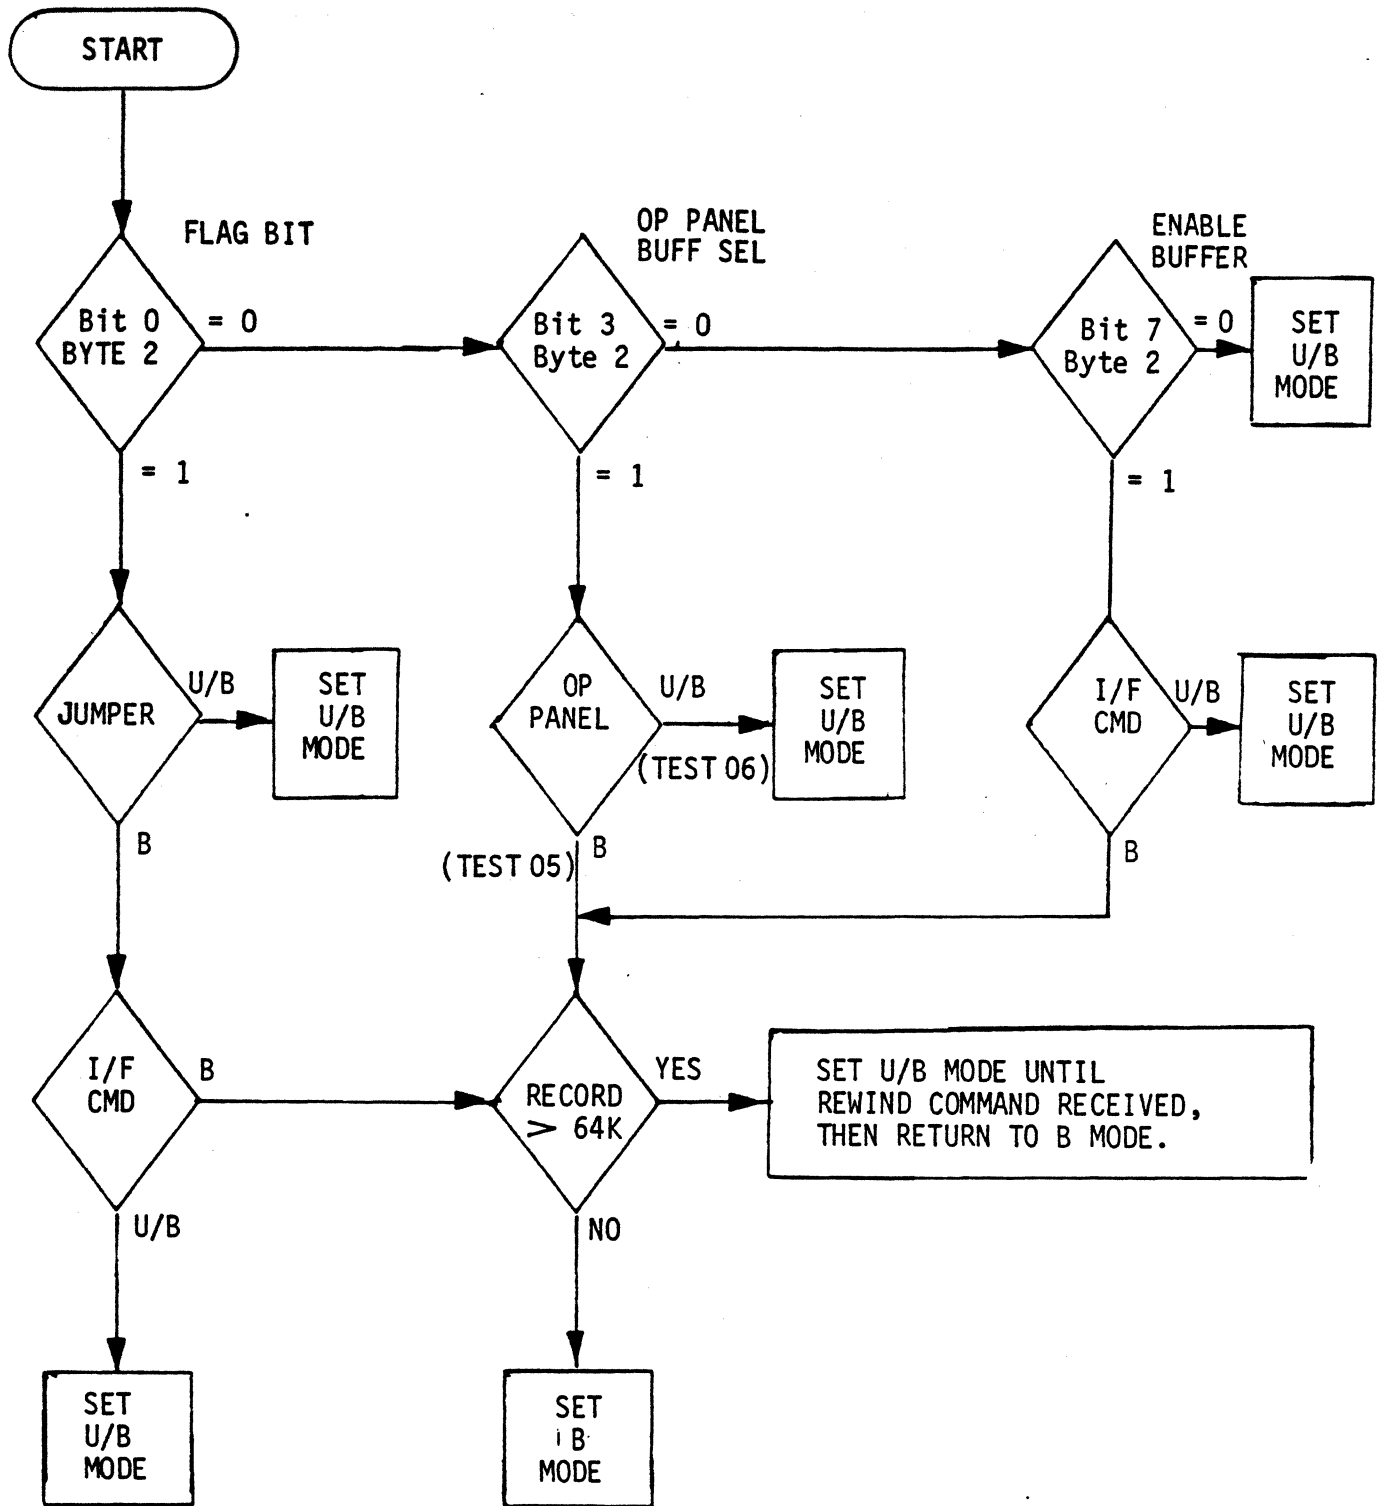

Figure 6-5A. Setting Buffered (B) or Unbuffered (U/B) Mode, buffered Pertec Enhanced I/F
- c. For priorities in setting buffer mode or unbuffered mode, refer to figure 6-5A.